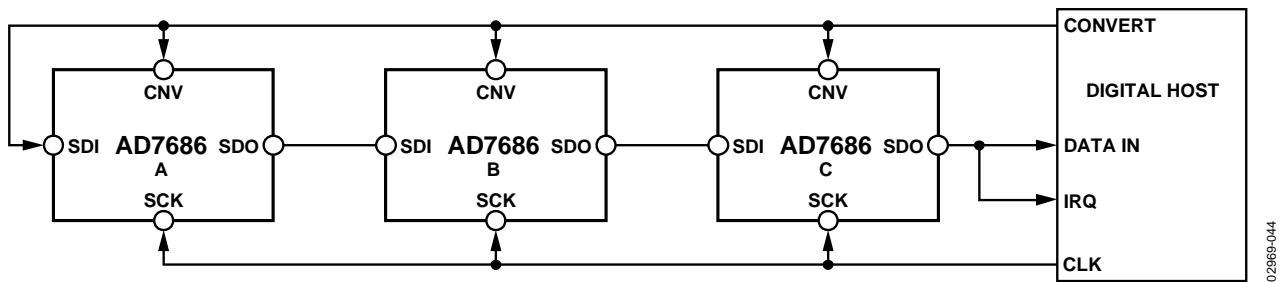
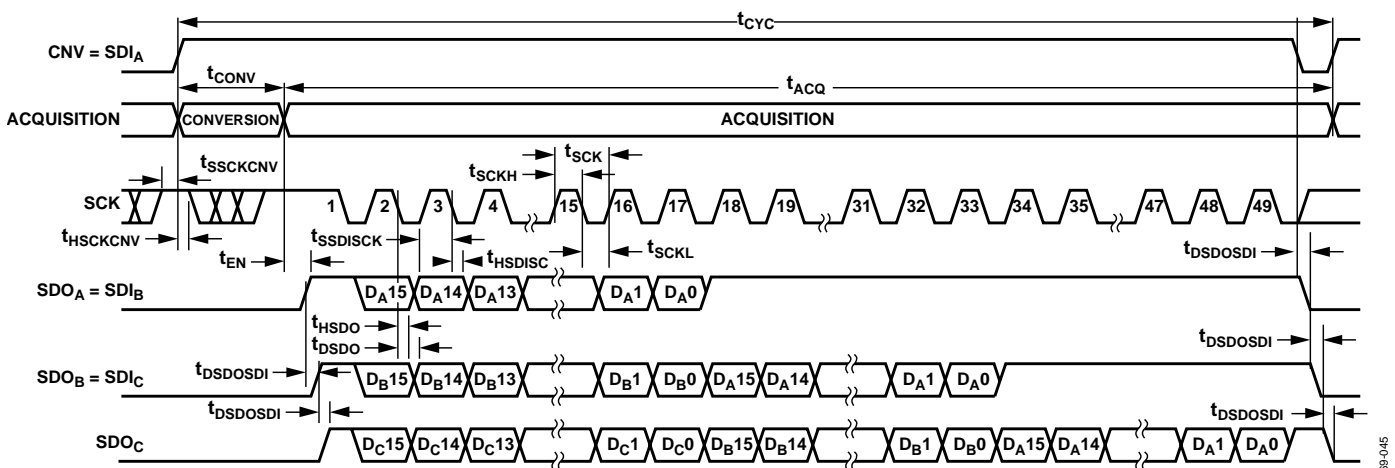

Figure 43. Chain Mode with BUSY Indicator Connection Diagram
Figure 44. Chain Mode with BUSY Indicator Serial Interface Timing
- In the chain mode, if SCK is high during the CNV rising edge (Figure 44).
A connection diagram example using three AD7686s is shown in Figure 43 and the corresponding timing is given in Figure 44.
Figure 43) SDO is driven high. This transition on SDO can be used as a BUSY indicator to trigger the data readback controlled by the digital host. The AD7686 then enters the acquisition phase and powers down. The data bits stored in the internal shift register are then clocked out, MSB first, by subsequent SCK falling edges. For each ADC, SDI feeds the input of the internal shift register and is clocked by the SCK falling edge. Each ADC in the chain outputs its data MSB first, and $16 \times N + 1$ clocks are required to readback the N ADCs. Although the rising edge can be used to capture the data, a digital host using the SCK falling edge allows a faster reading rate and consequently more AD7686s in the chain, provided the digital host has an acceptable hold time. For instance, with a 3 ns digital host setup time and 3 V interface, up to four AD7686s running at a conversion rate of 360 kSPS can be daisy-chained to a single 3-wire port.